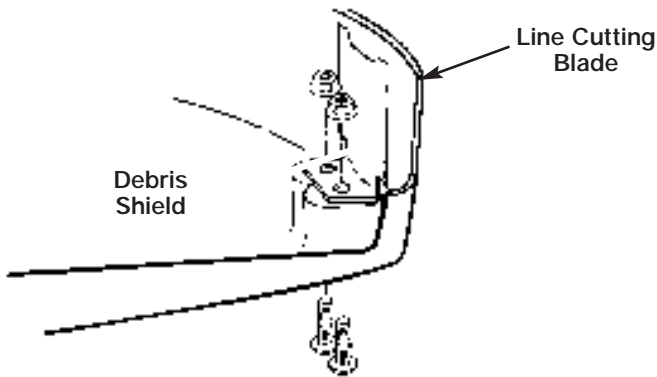

Fig. 28
1. Remove the line cutting blade from the debris shield (Fig. 28).